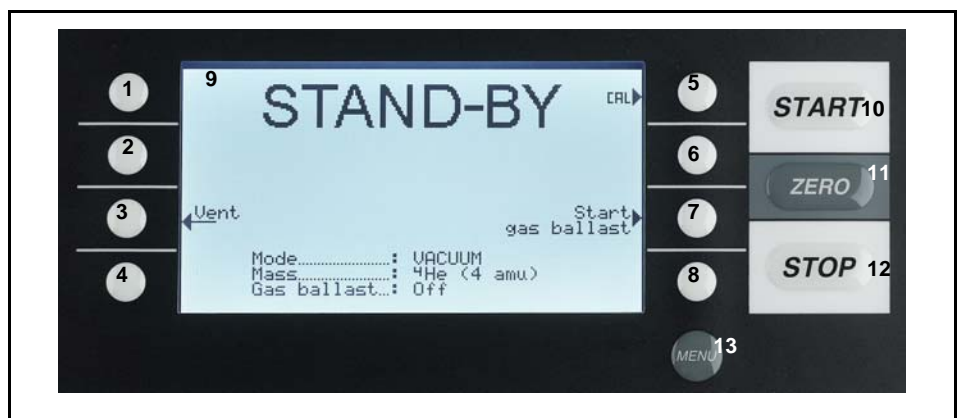

Fig. 13 Control panel
Press Calibration (Soft Key no. 5 Fig.13/5) to get into the calibration menu.
Select internal (Soft Key no. 4, Fig.13/4) to choose the internal calibration.
9. Press the STOP button Fig13./12 until the message STAND-BY / VENTED appears on the display. The inlet is vented now.
11. Press the START button FIG:13/10. The inlet will be evacuated and the leak rate of the test leak will be measured and displayed.
12. Press the STOP button FIG:13/12 to stop the measurement. The PhoenixXL goes into Stand-by mode.
13. Press the STOP button FIG.13/12 again until the message STAND-BY / VENTED appears on the display. The inlet is vented now.
16. Press the START button Fig.13/10. The test object will be evacuated.
18. Press the STOP button Fig.13/12 to stop the measurement. The PhoenixXL goes into Stand-by mode.
19. Press the STOP button Fig.13/12 again until the message STAND-BY / Vented appears on the display. The inlet is vented now.
The Control panel Fig.13 contains a liquid crystal display (LC Display), the START, STOP, ZERO and MENU buttons and eight soft Keys for the different menus and inputs selections.
The LC Display Fig.13 /1 is the communication interface to the operator. It displays the leak rates, the status report of the PhoenixL, messages, warnings and errors. With the soft keys no.1 to no. 8 various functions which are shown in the display can be selected
Pushing the START Button Fig.13 /10 enables the PhoenixL to start the measure procedure. The measured leak rate is shown in the display. If the START button is pushed again in measurement mode, the maximum leak rate indicator („hold“ function) is activated. This indicator shows the maximum leak rate since „START“. By pressing the START-button again the „hold“ function will be started again.
Pushing the STOP Button Fig.13 /12 interrupts the measure procedure. If the button is pressed longer the inlet is vented according to the conditions defined in the menu Vent delay. See Chapter XX to select the time parameters of the venting.
Pushing the ZERO button Fig.13 /11 enables the zero mode. (see also Chapter XX)